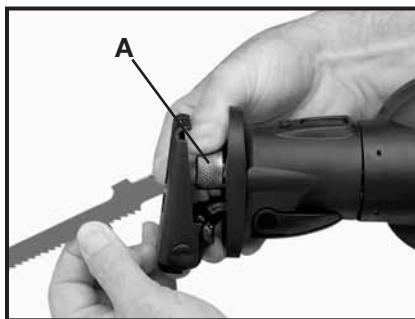

Fig. 2
3. To open the blade clamp: rotate and hold the blade release collar (A) Fig. 2, counterclockwise (as viewed from the front of the saw).